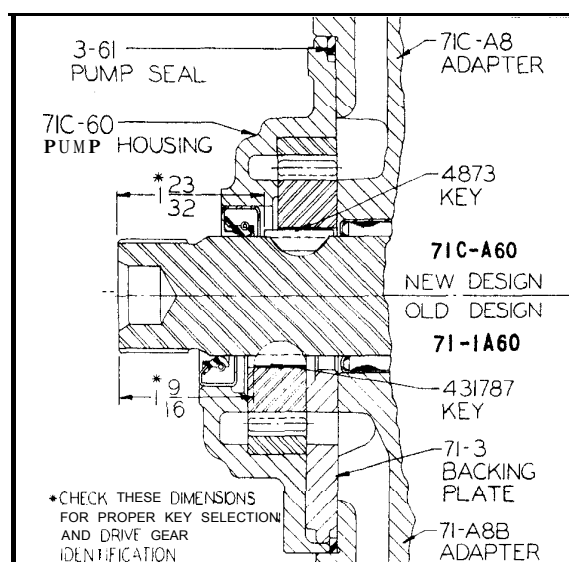
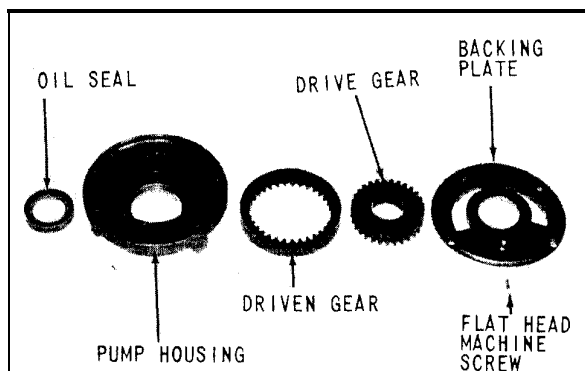

Fig. 90 Illustration of the Installation of the Two Types of Pump Assemblies and Their Related Parts.
Fig. 91 Front Pump Parts with Backing Plate, Assembly 71-1A60
NOTE: Check (Fig. 90) to determine that proper key and shaft are used.
NOTE: The following instructions are for the assembly of the front pump with a backing plate, (Fig. 91). This pump can be used with either of the two different adapter housings, but it should normally be found assembled on the one shown in (Fig. 89). Any of the various versions of the input, shafts may be used with this pump, but the proper key must always be used with each shaft. See (Fig. 90) for comparison of the installation of the two pump assemblies and information on the other related parts.
5. Collect the parts shown in (Fig. 91) and check carefully for the following: